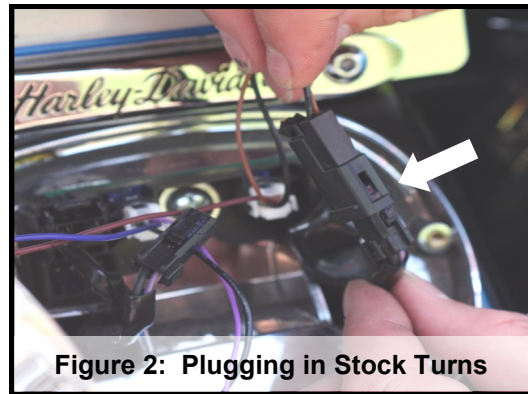

Figure 2: Plugging in Stock Turns
7. If you are continuing to use the stock turn signals, plug the them into the 2 pin connectors on the tail light. Brown is right, purple is left. Make sure they lock in place. (See figure 2)